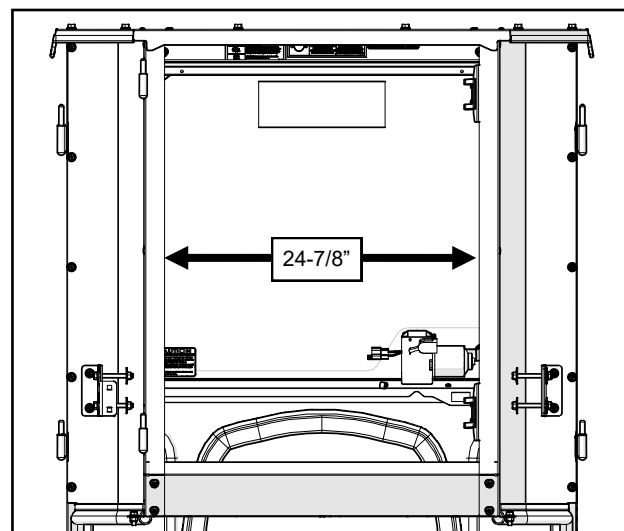

Fig. 11.1 (Measure Rear Legs Left to Right)
- 11.1** Measure the back of the rear legs, inside to inside, and adjust the width to 24-7/8". Measure corner to corner for squareness, and **tighten the (8) sets** of screws and nuts to lock in this width. See figure 11.1